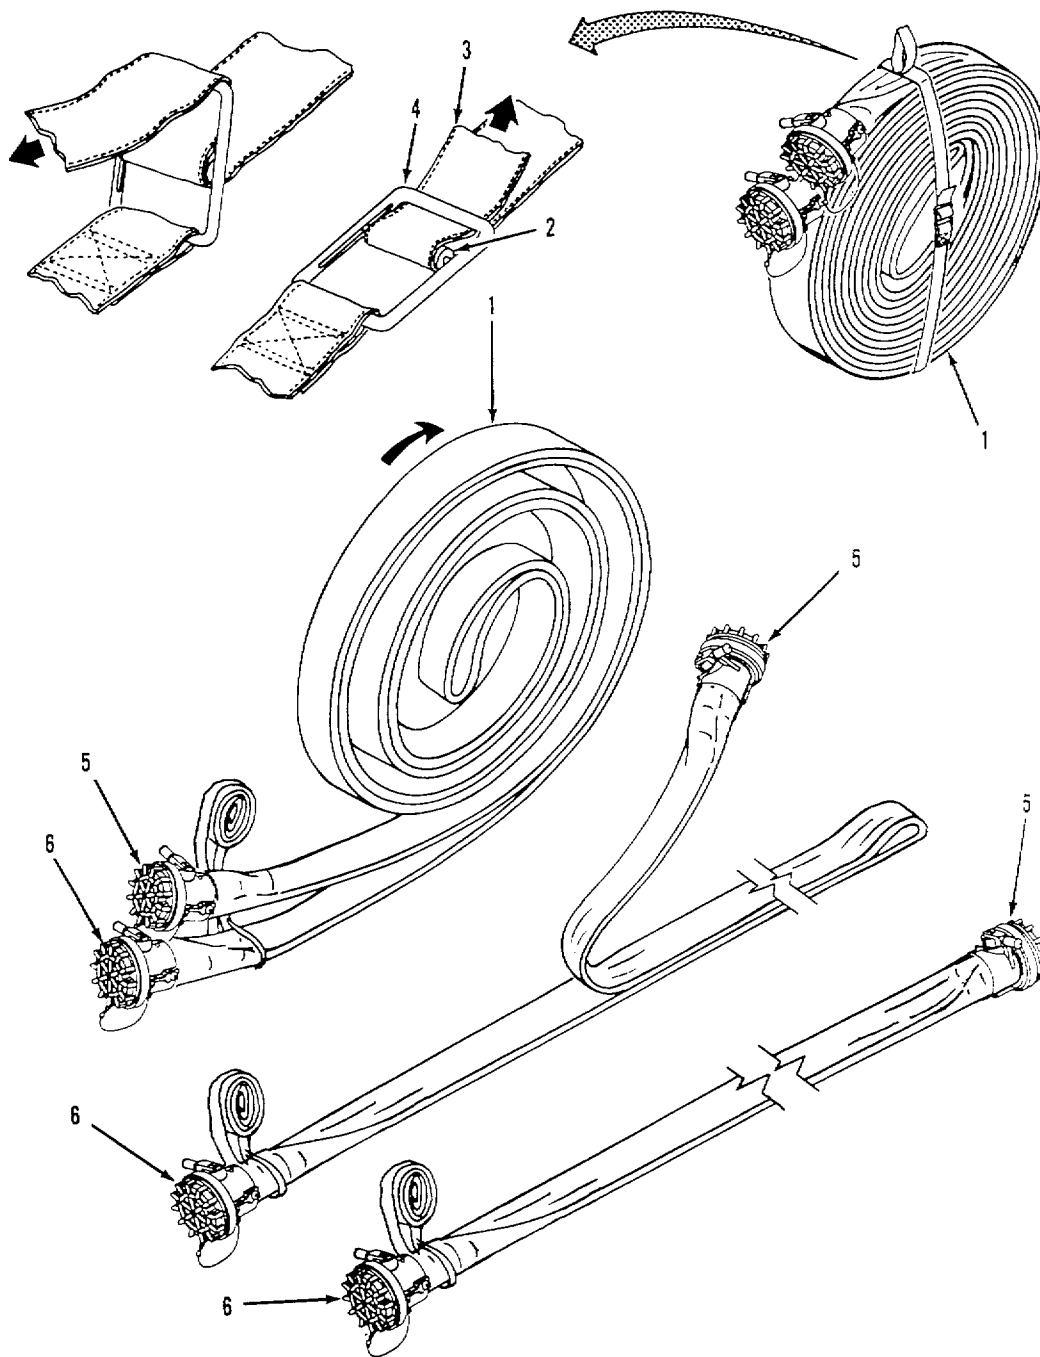

Figure 2-7. Unrolling Fuel Hoses.
- (1) Remove HTARS components from transport vehicle.
- (2) To aid assembly, separate components into groups of similar parts during removal. For example, group all the fuel hoses together, then all the tees, elbows and nozzles.
- c. Unrolling Fuel Hoses. Refer to figure 2-7.